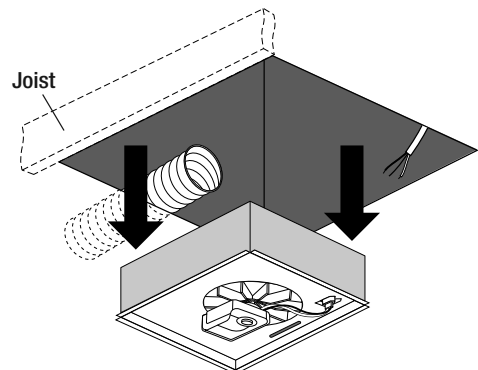

Fig. 5
- Remove the old fan along with any installation hardware. Use a pry bar if necessary. Once your old fan has been removed, you are ready to install your new ventilation fan. See figure 5.